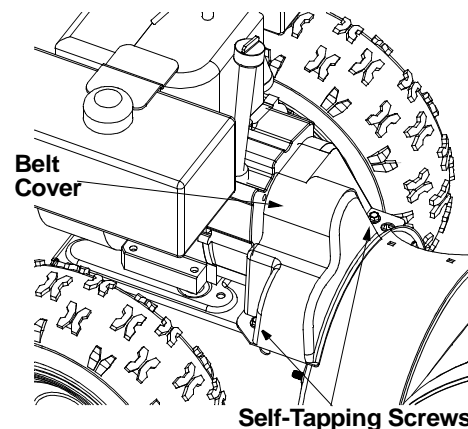

Figure 20
- Remove the plastic belt cover on front of the engine by removing the two self-tapping screws. See Figure 20.